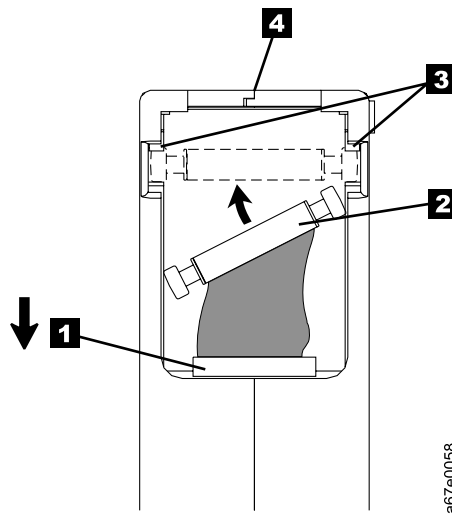

Figure 17. Placing the dislodged leader pin into the correct position. The cartridge door is open to show the leader pin.
- Inspect the rear of the cartridge (the part that you load first into the tape load compartment) and ensure that there are no gaps in the seam of the cartridge case (see **4** in Figure 17 on page 56). If there are gaps in the seam (see Figure 15 on page 53), the leader pin may be dislodged. Go to “Repositioning or Reattaching a Leader Pin” on page 55.
1. Slide open the cartridge door (**1** in Figure 17) and locate the leader pin **2** (you may need to shake the cartridge gently to roll the pin toward the door).